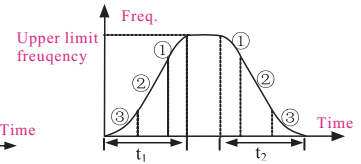

Fig.6-5 S curve Acc/Dec
1: S curve Acc/Dec. Output frequency increases or decreases as s curve shown as Fig.6-5.
S curve start stage time shown as Fig.6-5 ③. The curve slope is increasing from 0.
S curve ascent stage time shown as Fig.6-5 ②. The curve slope keeps constant.
S curve end stage time shown as Fig.6-5 ①. The curve slope is decreasing to 0.